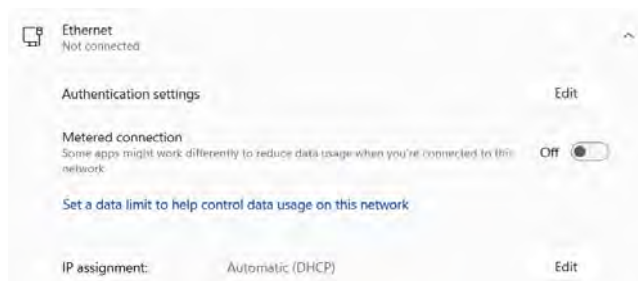

Figure 6.2 Edit IP assignment
3. Press the Edit button of the IP assignment of the Ethernet port you want to use at your computer (See figure 6.2).